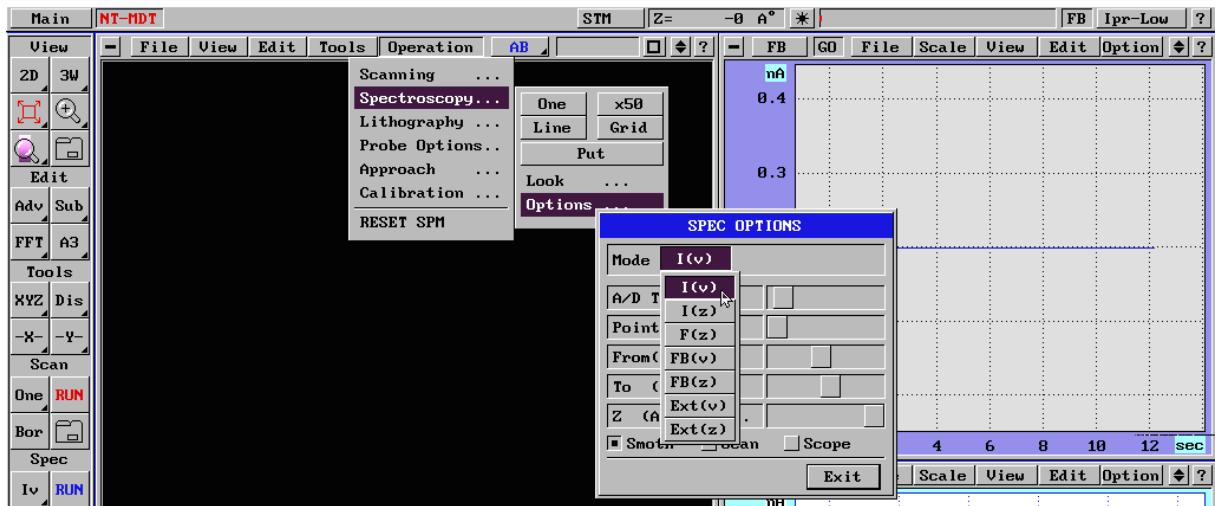

Fig. 82
Note that the voltage and amperage parameters can be obtained by two methods: I(U) and Fb(U). However, the latter method is suitable only if the feedback is supported using the "Iprobe" or "Ipr-low" signals. If the feedback is supported using the "Ipr-low" signal or in case of AFM, "Normal Force", the I(U) mode only is suitable for taking the voltage and amperage parameters (Fig. 82).